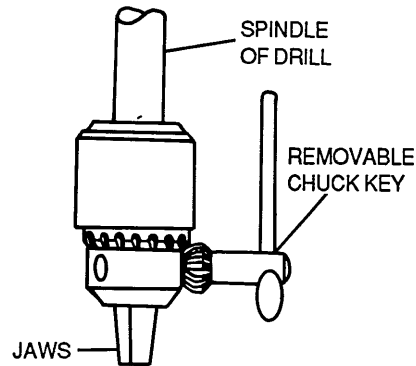

Figure 6-3. Three-Jaw Chuck and Chuck Key
(1) Installing the drill bit. The drill bit is installed in the chuck on the drill. Nearly all electric drills are equipped with a three-jaw chuck, which is tightened and loosened by means of a chuck key, as shown in figure 6-3.